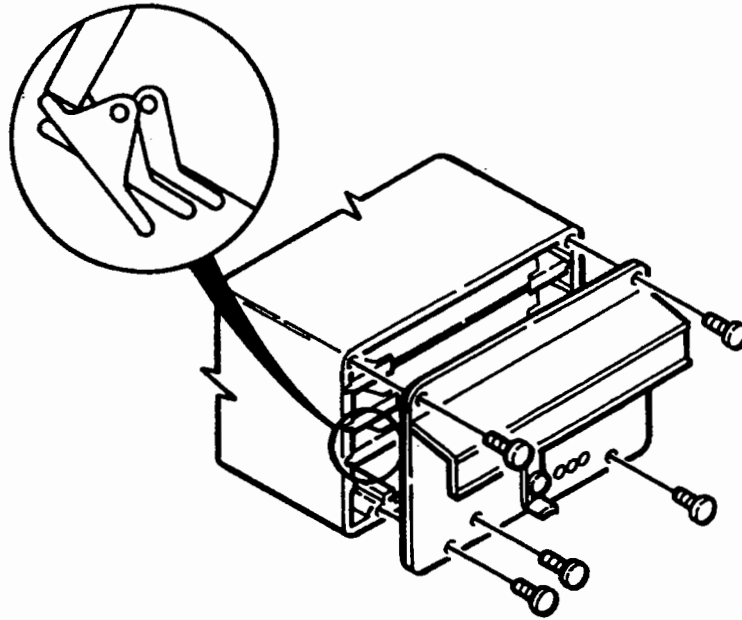

Figure 5-10. Removing Processor Cover
2. Remove the five screws securing the cover (handle end) of the processor. (See figure 5-10.)
3. Use the levers (figure 5-10) on the corners of the Expansion Interface PCB to loosen the board for removal from the processor. (The Expansion Interface board is the third one from the top.)